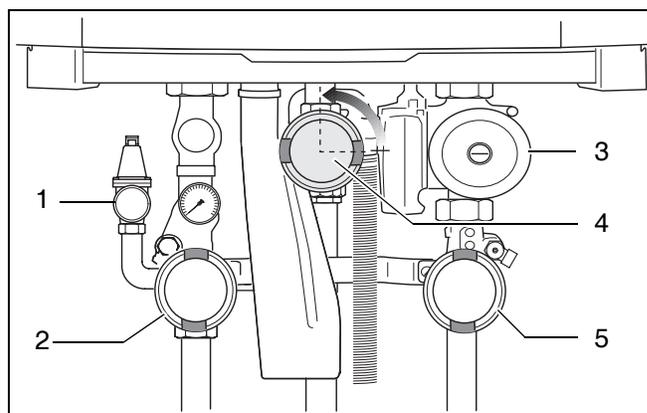

Fig. 45 Open the gas valve
- If 0.5 psi (34.45 mbar) or less, slowly open the gas valve by pushing on the gas valve and turning it ¼ rotation in a counter-clockwise direction (fig. 45). The gas valve is open when it is in the vertical position.